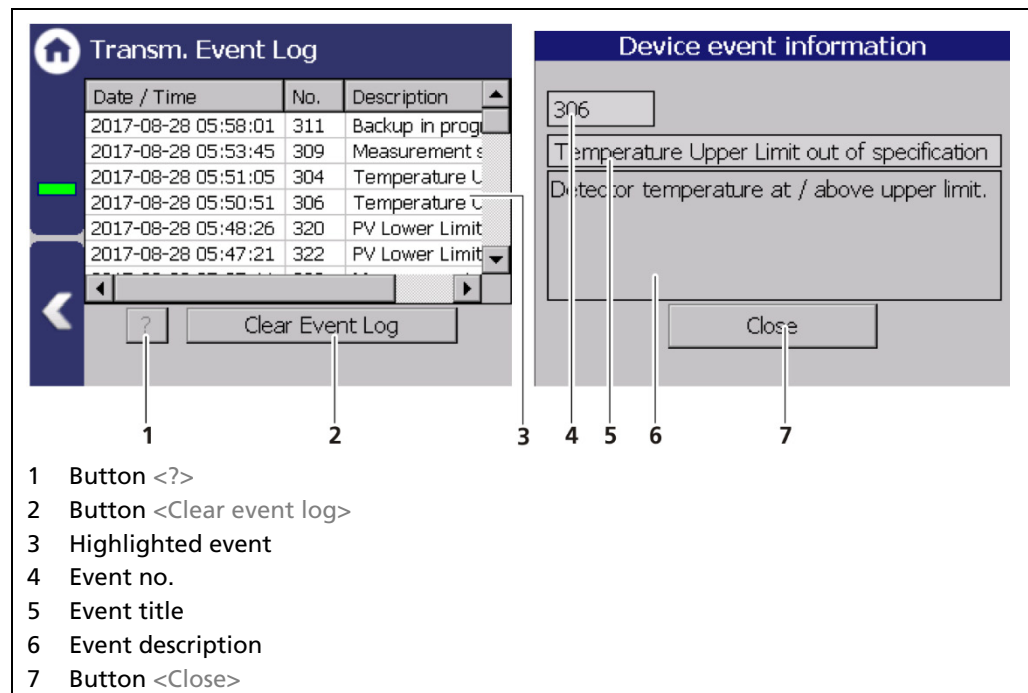

Fig. 138 Display an Event Log Information
1. Click on a line in the list (Fig. 138, item 3).
2. Click on <?> (Fig. 138, item 1).
3. With the button <Close>, close the event description (Fig. 138, item 7).
With the button <Clear event log> (Fig. 138, item 2) all events are deleted irrevocable.